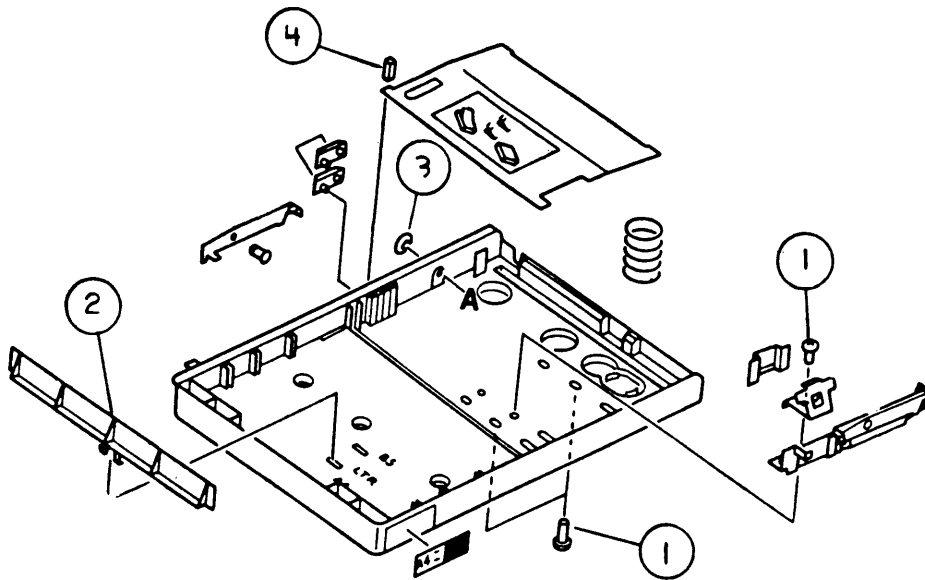

FIGURE 8
□ LASERWRITER – CASSETTE (Figure 8)